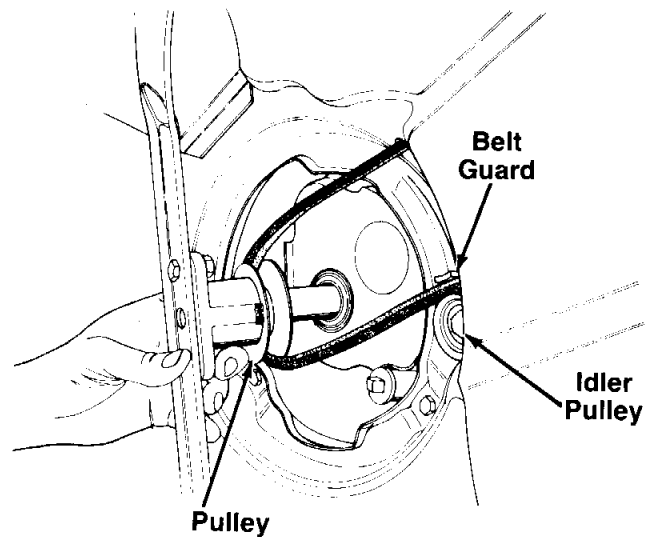

FIGURE 23.
7. Remove the belt from between the idler pulley and the belt guard on the idler pulley bracket. Refer to figure 23.
- C. Release the idler pulley so it falls down into position. Slide the belt in between the idler pulley and the belt guard on the idler pulley bracket as shown in figure 23.